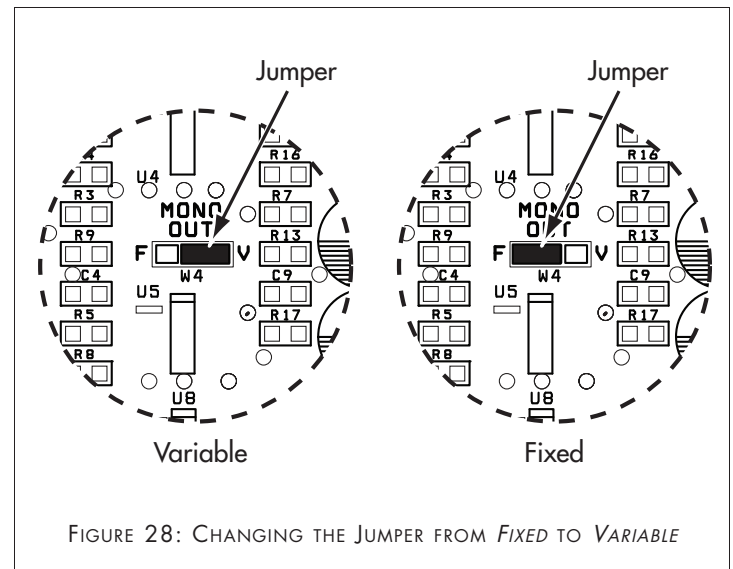

FIGURE 28: CHANGING THE JUMPER FROM *FIXED* TO *VARIABLE*
4. Remove the jumper from the center pin and the "V" (variable) pin and re-insert it between the center pin and the "F" (fixed) pin (see *Figure 28*).